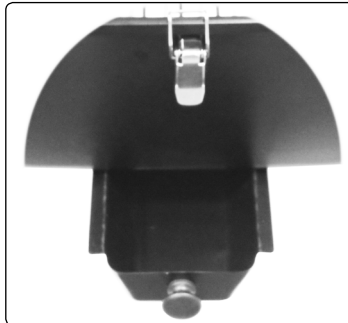

fig. 18
- 8.1.4. Regularly clean the drip tray reservoir with hot soapy water. It is sited beneath the barbecue bowl and will be hot whilst barbecue is in use (fig. 18).